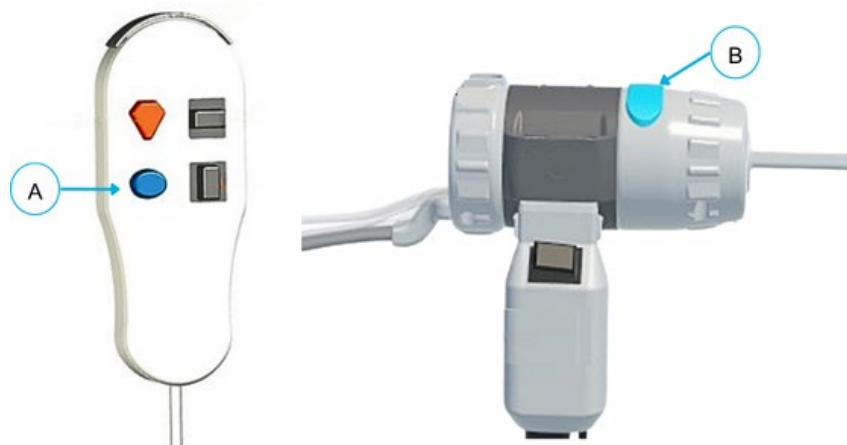

Figure 14-5: Flush Activation Button on the Controller and Delivery Device
1. Double tap and hold the **Flush Activation Button** on the Controller (**A**) or Delivery Device (**B**) to activate the Turbo Flush feature (**Figure 14-5**).